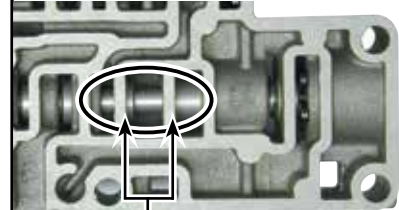

Figure 1
Identify early vs. late valve body (Figures 1 & 2).
- Identify valve body and valve application (Figure 1).
- Identify valve body and valve application (Figures 1, 2 & 3).